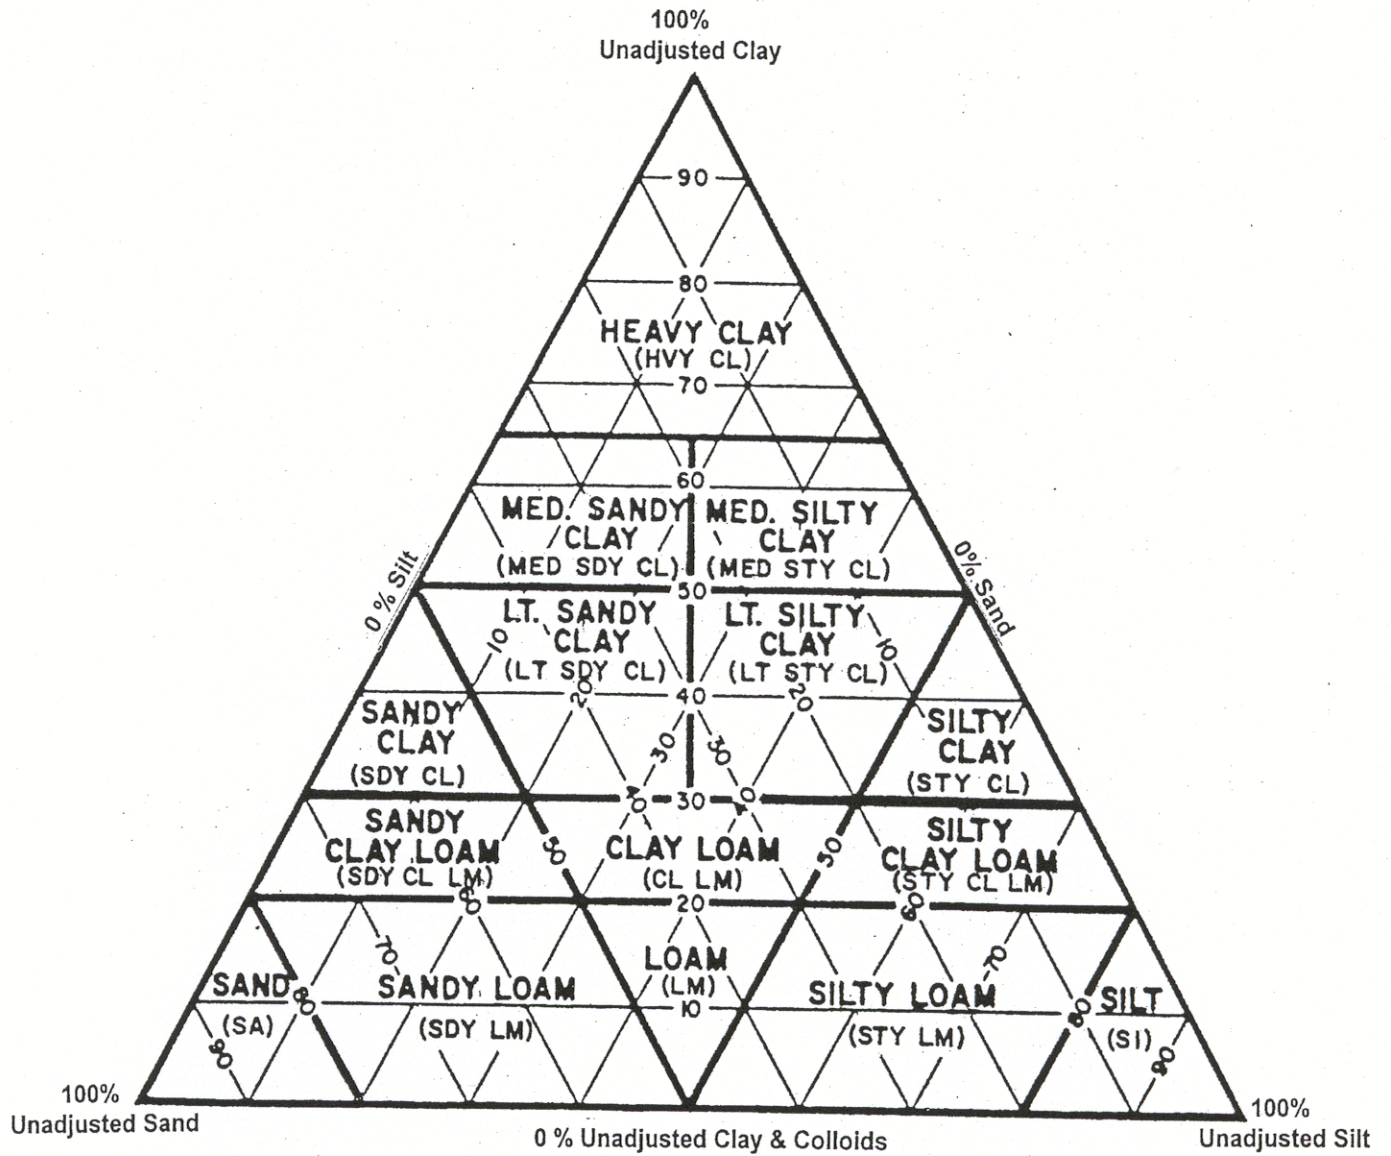

Figure 2
1. For materials falling within groups A-1-a, A-1-b, A-2-4, A-2-5 and A-3, record the group index as zero (0) in parenthesis on the worksheet after the group classification.
E. Determine the textural name classification using the unadjusted percent sand (from TR 407), the unadjusted percentage of silt (from TR 407), the unadjusted percent clay and colloids (from TR 407), and the triangular chart shown in Figure 2.
1. On the triangular chart (Figure 2), locate the intersection of the horizontal and diagonal lines corresponding to the unadjusted percentages of sand, silt, and clay and colloids.
**Note 3:** *If a sample contains zero (0) percent sand (100% passing the 75  $\mu\text{m}$  [No. 200 sieve]), use the borderline classification rule of "to the left and up."*